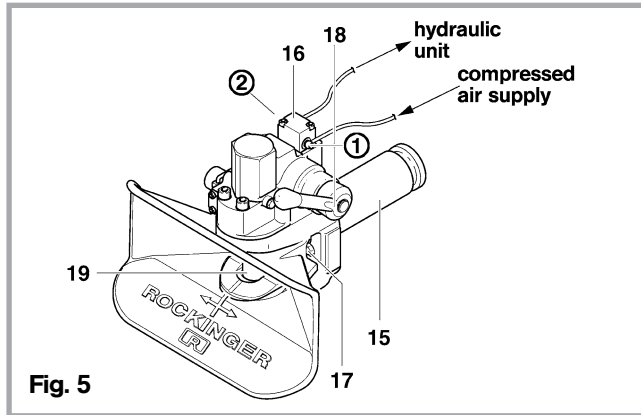

Fig. 5
- Fit pneumatic **connection set not supplied** (see fig. 5):
- From valve (16) connection ② to hydraulic unit.
- From valve (16) connection ① to compressed air supply (secondary consumer – max. 10 bar, min. 5 bar).
- Coupling closed: pressure bar (17) protrudes 15 mm.
- Raise lever (18) slightly: compressed air can be heard to escape and relieves hydraulic unit, pressure bar (17) can be pressed back (use tool, danger of accident).
- Open coupling with hand lever (18).